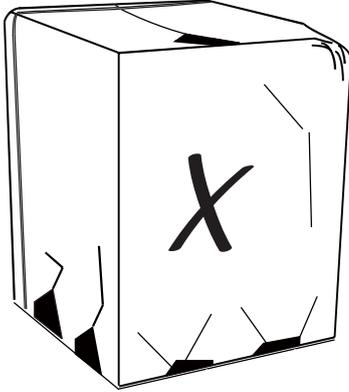

Figure 4-1
- Check for damage and report promptly to the carrier any damage found to the unit (Figure 4-1).